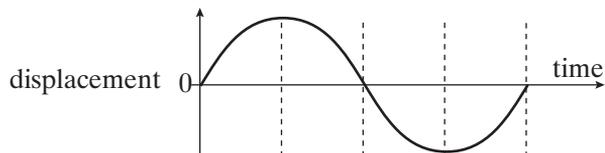

Figure 5
- (c) **Figure 5** is a graph of displacement against time for the pendulum.